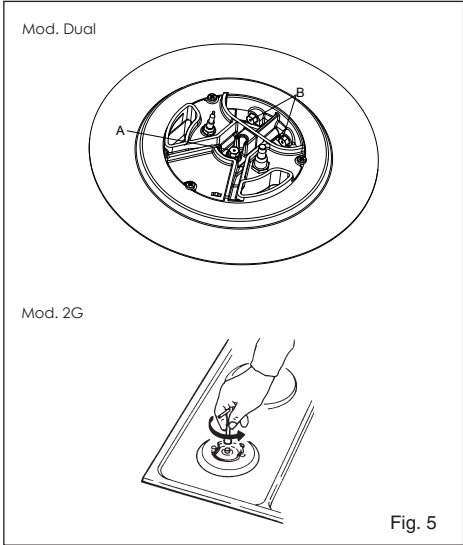

Fig. 5
**Adaptation to various types of gas (Fig. 5)**
- replace the injector (Fig. 5) with the corresponding type of gas to be used (see table "User characteristics");